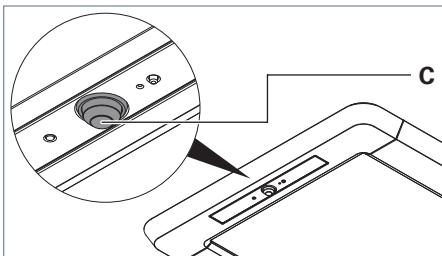
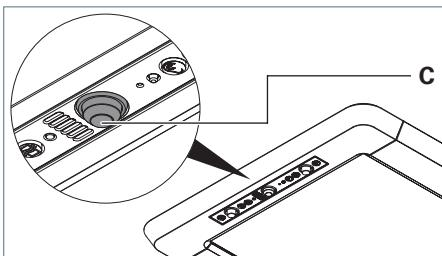

Fig. 22: PIR sensor, version R.
Fig. 23: PIR sensor, version RX.
- ▶ Set the ball head **C** of the PIR sensor to the required direction, see Fig. 22 and see Fig. 23.